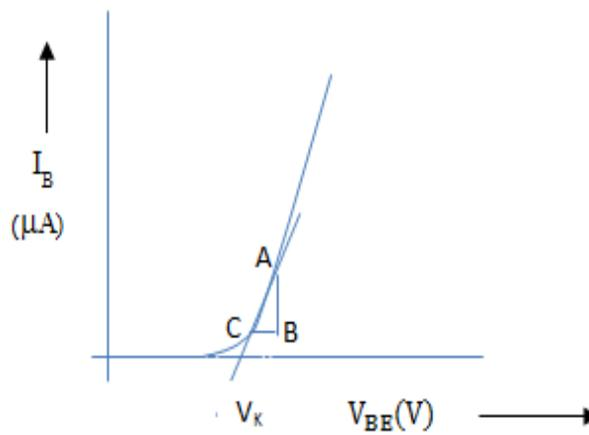

Figure 9.2
4. A graph of base emitter voltage V_{BE} V/s base current I_B , for constant V_{CE} is plotted (as in Fig. 9.2). A tangent is drawn to the increasing portion of the curve and that value of x-axis is taken as **Knee Voltage** V_K .